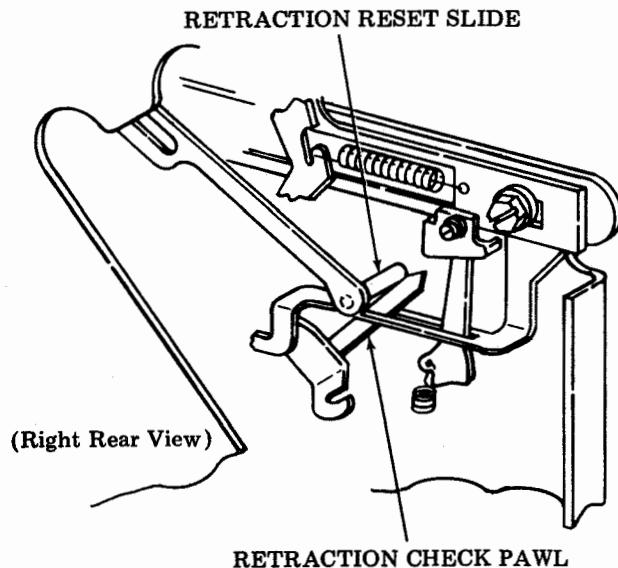

Figure 7 - Retraction Slide and Check Pawl
(3) View the left side of the typing unit and check the position of the retraction reset slide and the retraction check pawls in the retraction mechanism. The retraction reset slide shall be positioned in front of the retraction check pawls. Correct position is shown in Figure 7. If corrective action is required, move retraction reset slide out and around to the front of the check pawl.